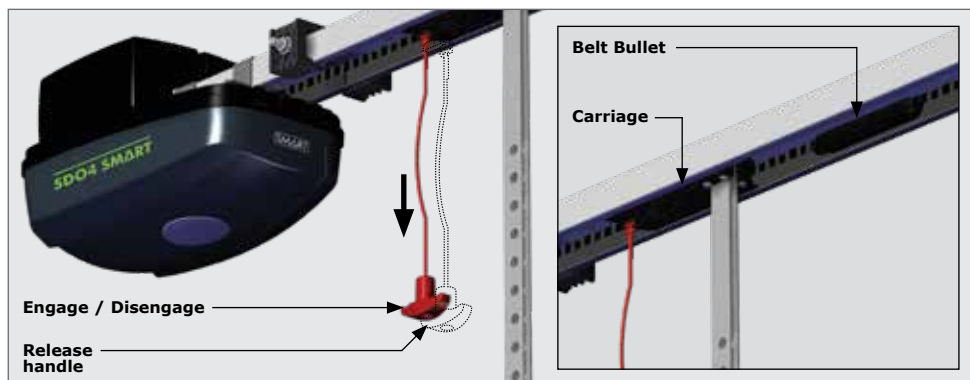

FIGURE 76
- TO ENGAGE - Pull the release handle back towards the control head until you hear a 'click', and move the carriage until it engages with the belt bullet (Figure 76)